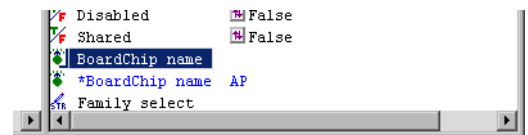

Figure 3-6 New BoardChip_name setting in connection properties
- Select the name of the required group, for example **AP** for the Integrator/AP motherboard. A new entry is displayed in the right pane, which is colored blue, and has an asterisk * beside it, for example *BoardChip_name AP, shown in Figure 3-6.